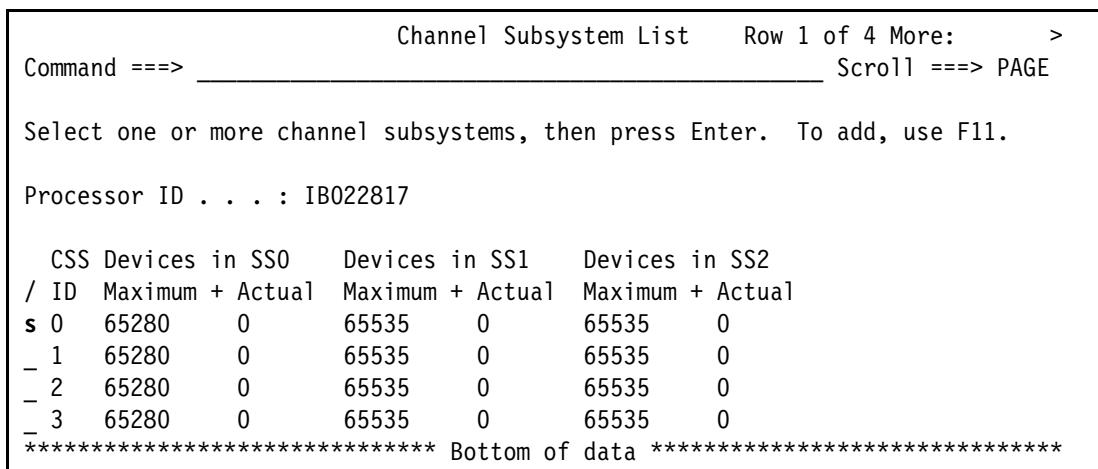

Figure 6-8 Channel Subsystem List
2. In the processor list, select the processor that you want to work with (in our case, IB022817) by entering **s** to the left of the Processor ID. Enter **s** to work with the channel subsystems for this processor, as shown in Figure 6-8.
Specify **s** for the appropriate CSS ID (0 in our example in Figure 6-8) and press Enter to display the Channel Path List for this processor.